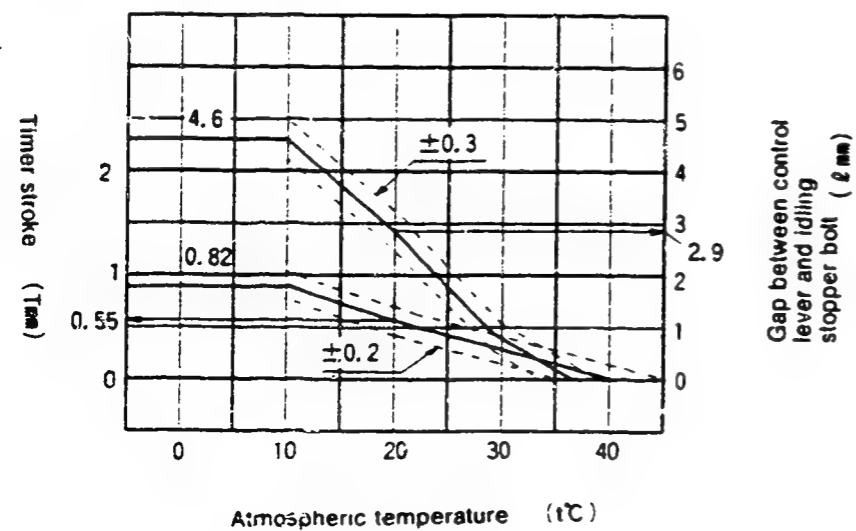

Fig. 2
1. Calculate the timer stroke from Fig. 2 according to the atmospheric temperature at the time of adjustment.
1. Calculate the block gauge dimension  $l \pm 0.05$  mm from Fig. 2 according to the atmospheric temperature at the time of adjustment.
## Formula for calculating Fig. 2